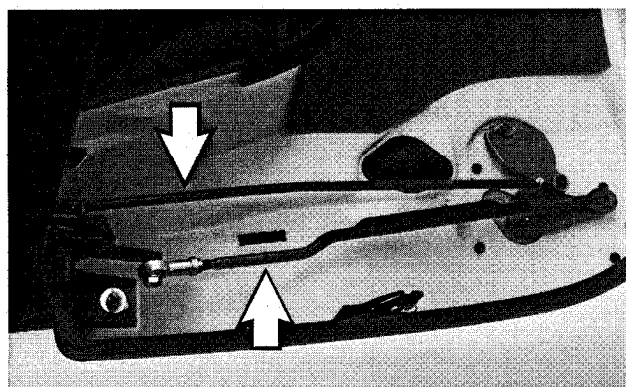

Fig. 11. Convertible top linkage rods (arrows) in compartment behind left rear seat.
5. Working in convertible top storage compartment behind driver's seat, remove convertible top linkage rods from top of motor. Refer to Fig. 11.
5. Disconnect electric motor linkage rods in convertible top storage compartment behind left rear seat. See Fig. 11.